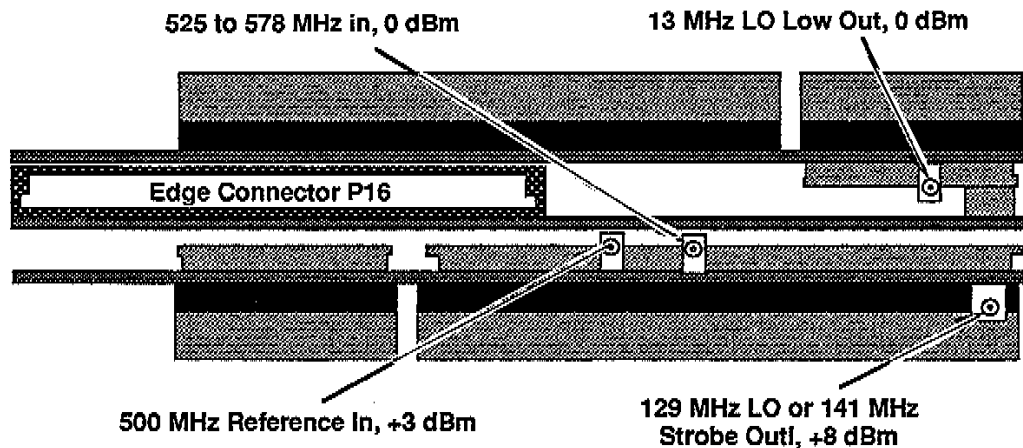

Figure 4-6. A25 LO module connector location (bottom view of module).
- Connect a spectrum analyzer to measure the 0 dBm, LO Low output on the A25 LO module (Figure 4-6)
- Check for a 500 MHz, +3 dBm input from the A28A1 X5 Multiplier (part of the A28 Period Counter module). See Figure 4-6 for the test point location. This 500 MHz signal is generated by the A29 Reference Oscillator, and is routed through the A28 Period Counter module to the A25 LO module.
- Begin the frequency self-correction routine while measuring the 565 MHz input to the A25 LO module (Figure 4-6). Check for a 0 dBm signal that sweeps slowly from 578 MHz to 525 MHz.
4. Connect a test spectrum analyzer to the 129 MHz LO Out port (Figure 4-6) to check the 129 MHz LO amplitude and tune control circuitry: